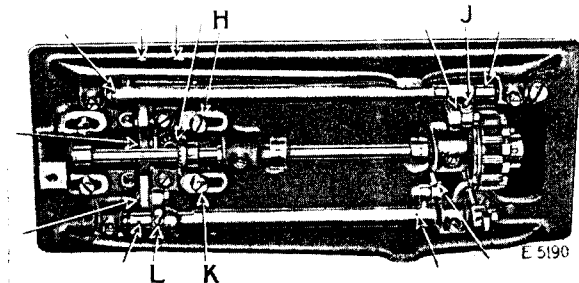

FIG. 5. OILING POINTS IN THE BASE OF THE MACHINE
Turn the machine back on its hinges and apply oil at the places shown in Fig. 5, then bring the machine forward into place.
Tip the machine back and turn the balance wheel toward you until the feed dog is at its highest position. Loosen the pinch screw (L, Fig. 5, page 5) in the feed bar slide block crank on the feed lifting rock shaft and move the crank up or down until the feed dog is at the desired height, then retighten the pinch screw (L).
If the feed dog strikes the throat plate, loosen the pinch screw (J, Fig. 5) of the feed driving connection crank at the right hand end of the rock shaft, then set the feed dog so that it will not strike when the longest stitch is taken, and retighten the pinch screw (J).
The sewing hook can be moved to or from the needle by loosening the screw (E, Fig. 2, page 4) at the front of hook post and the two screws (H and K, Fig. 5, page 5) underneath the bed of the machine and moving the hook post to the right or left as may be necessary to bring the hook into proper relation with the needle. When the sewing hook is correctly adjusted, firmly tighten the three screws (E, H and K).